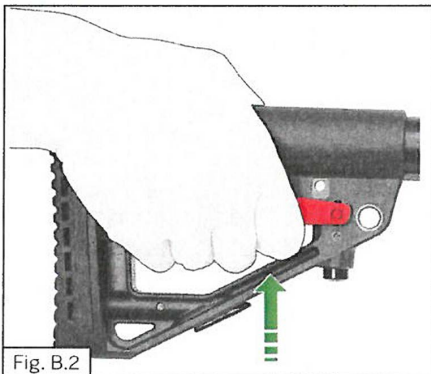

Fig. B.2
- press the lever fully and disengage the spring loaded buttstock latch from the tube as shown in Fig. B.2;